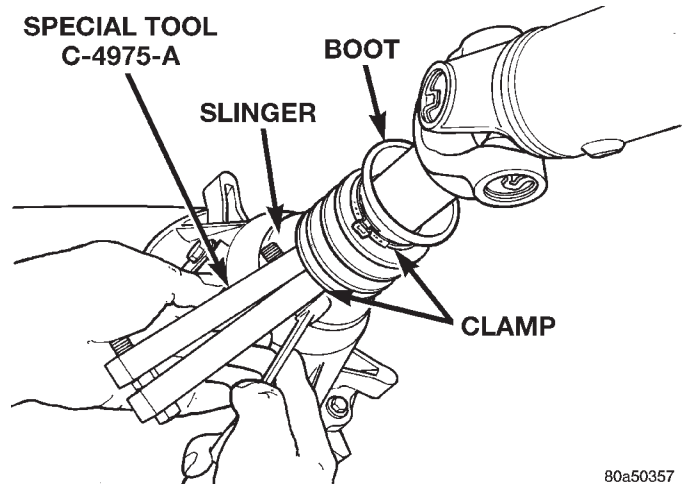

Fig. 91 Slinger Boot Installation
(11) Install boot on output shaft slinger and crimp retaining clamp with tool C-4975-A (Fig. 91).